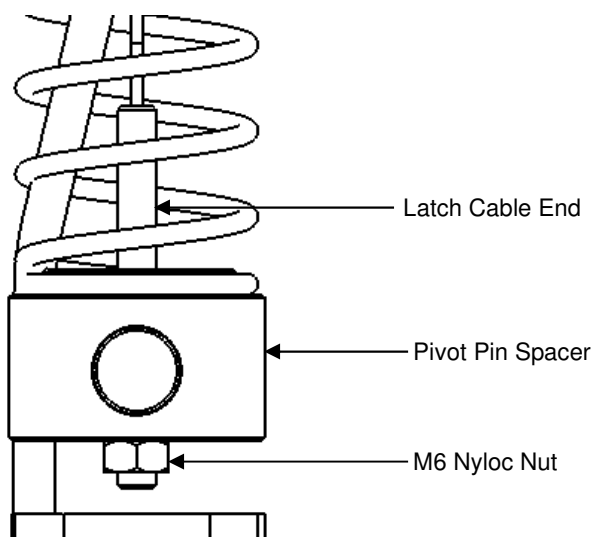

Figure 9.4.3.4 Pivot Pin Adjustment arrangement (Note: TRAM Arm omitted for clarity)
9. Adjust the M6 Nyloc Nut until there is 1mm (0.04") clearance between the Latch Pin and the bottom of the slot in the TRAM Arm. See Figure 9.4.3.5